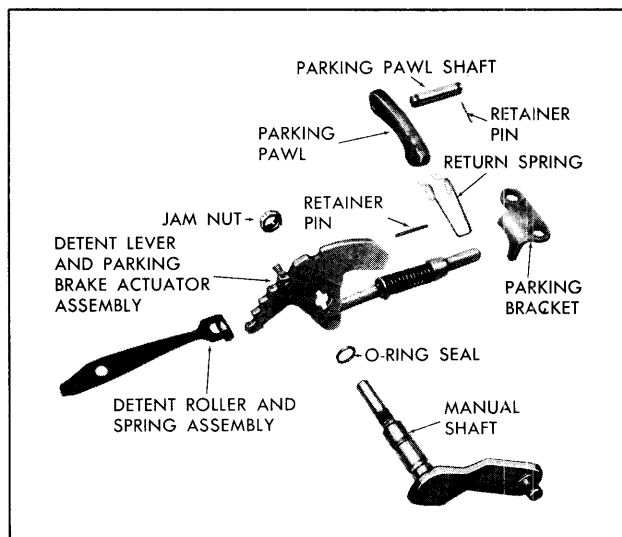

Fig. 7E-202 Manual and Parking Linkage
1. Install parking pawl (tooth toward the inside of case), pawl return spring and parking pawl shaft into case. (Fig. 7E-203)
2. Install the parking pawl shaft retaining pin. (Fig. 7E-204)
3. Install the parking bracket into case (pawl below finger on bracket). Torque the attaching bolts to 18 ft. lbs. (Fig. 7E-205)